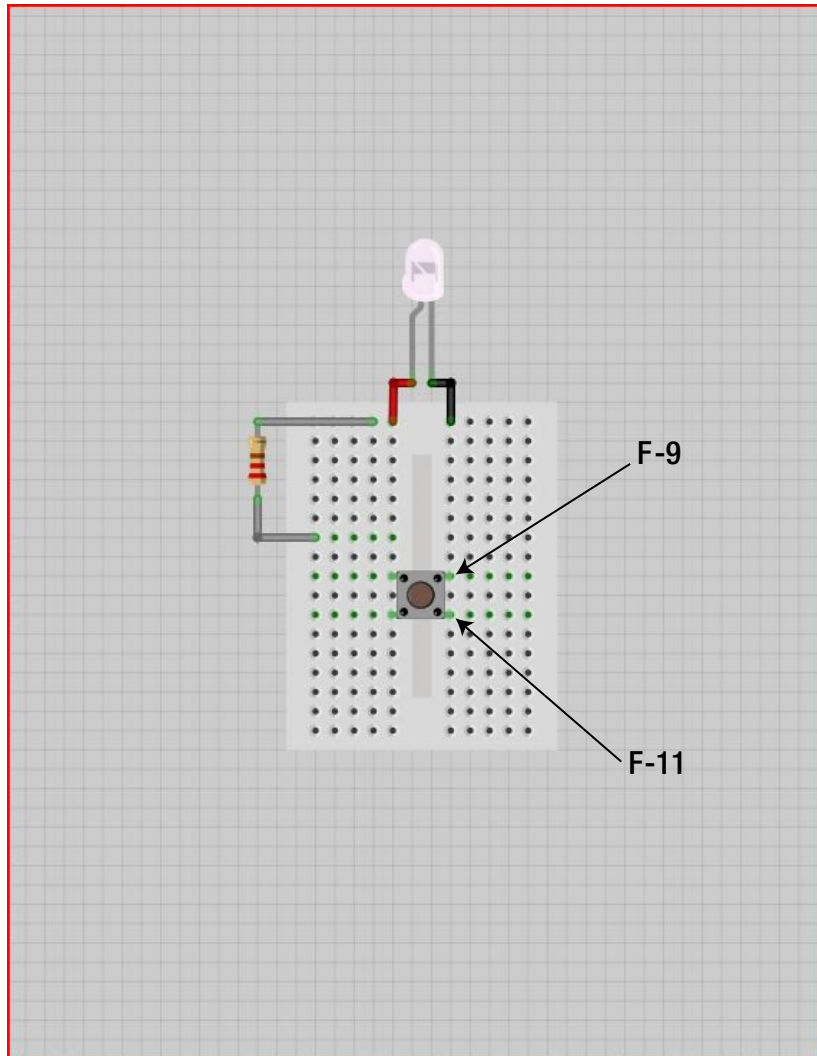

Figure 7-7. Attach the push button to the solderless breadboard
4. Attach the push button to the solderless breadboard. One set of pins will be inserted into E-9 and E-11. The other set of pins will be inserted into F-9 and F-11. Figure 7-7 illustrates this process.